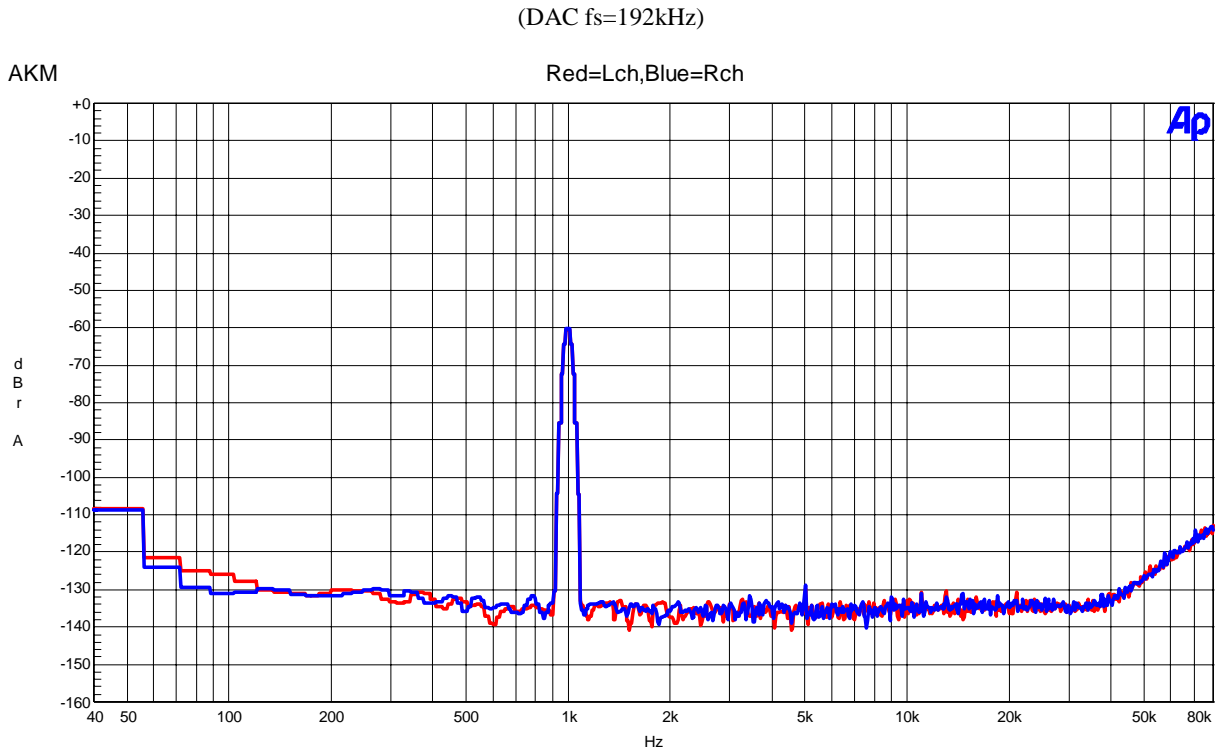

Figure 45. FFT(Input Frequency=1kHz, Input Level=-60dBFS)
- Figure 45. THD+N vs Input Level (Input Frequency =1kHz)